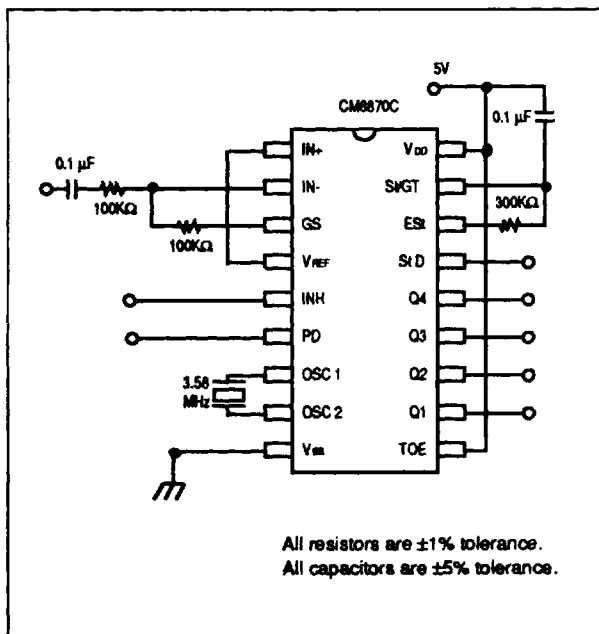

Figure 1. Single Ended Input Configuration
14. Referenced to Figure 1. Input DTMF tone level at -28 dBm.
The value of TDP is a parameter of the device and tREC is the minimum signal duration to be recognized by the receiver. A value for C of 0.1 uF is recommended for most applications, leaving R to be selected by the designer. For example, a suitable value of R for a tREC of 40 milliseconds would be 300K. A typical circuit using this steering configuration is shown in Figure 1. The timing requirements for most telecommunication applications are satisfied with this circuit. Different steering arrangements may be used to select independently the guard-times for tone-present (tGTP) and tone absent (tGTA). This may be necessary to meet system specifications which place both accept and reject limits on both tone duration and interdigit pause.
In a single-ended configuration, the input pins are connected as shown in Figure 1 with the op-amp connected for unity gain and VREF biasing the input at 1/2 VDD. Figure 6 shows the differential configuration, which permits the adjustment of gain with the feedback resistor RS.